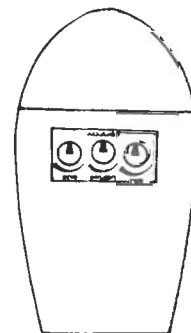

FIG 4
2. The control module has three (3) control knobs on the bottom. The function of each is explained below. Refer to Fig 4. Final adjustment of the knobs is explained in the "set up" portion of this manual.